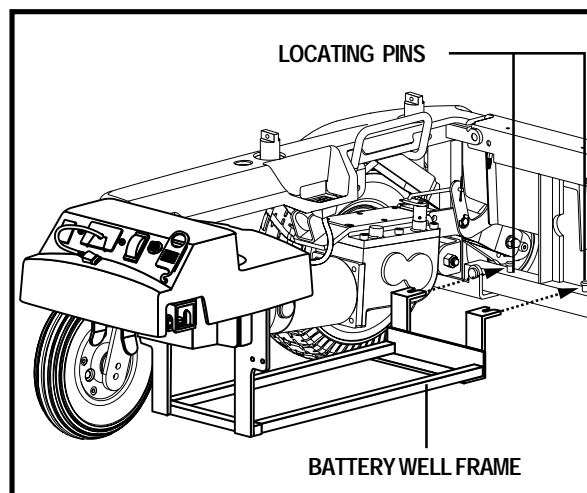

Figure 21. Connect Battery Well Frame
6. Position the notches on the front of the battery well frame onto the locating pins on the front frame bottom bar. See figure 21.